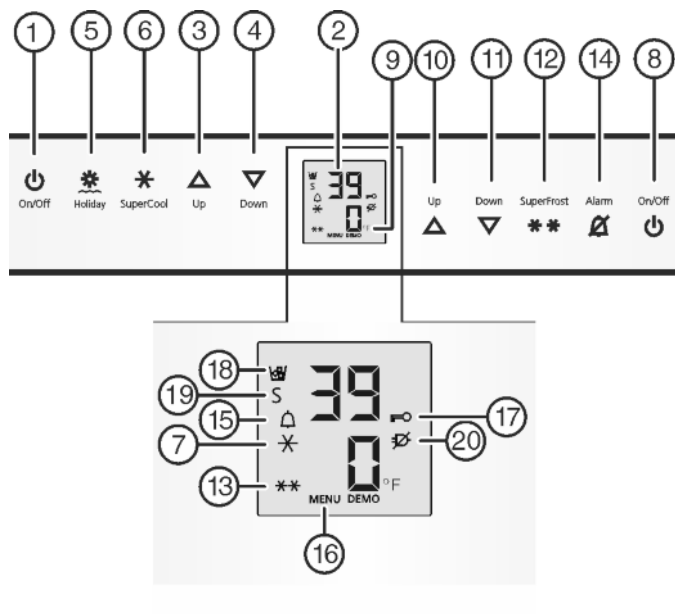

Fig. 3
- Press On/Off button, freezer compartment Fig. 3 (8).
- Press Fridge compartment On/Off button Fig. 3 (1).
- ▷ Fridge and BioFresh compartment are on: Fridge temperature display Fig. 3 (2) is on. When the refrigerator compartment door opens the interior light comes on.
- Activate setting mode: Press SuperFrost button Fig. 3 (12) for about 5 seconds.
- ▷ The Menu symbol *Fig. 3 (16)* lights up.
- ▶ Using Freezer compartment Up button *Fig. 3 (10)*/ Freezer compartment Down button *Fig. 3 (11)* select °.
- ▶ To confirm: Briefly press SuperFrost button *Fig. 3 (12)*.
- ▶ Using Freezer compartment Up button *Fig. 3 (10)*/ Freezer compartment Down button *Fig. 3 (11)* select °F or °C.
- ▶ To exit setting mode: Press Freezer compartment On/Off button *Fig. 3 (8)*.
- ▶ Activate setting mode: press and hold the SuperFrost button *Fig. 3 (12)* for approximately 5 s.
- ▶ Using the Freezer compartment Up button *Fig. 3 (10)* or Freezer compartment Down button *Fig. 3 (11)*, select c.
- ▶ Press the SuperFrost button *Fig. 3 (12)* briefly to confirm.
- ▶ To switch on the child-proof lock, press the SuperFrost button *Fig. 3 (12)* briefly.
- ▷ The Child safety symbol *Fig. 3 (17)* lights up. c flashes on the display.
- ▶ To switch off the child-proof lock, press the SuperFrost button *Fig. 3 (12)* briefly.
- ▷ The Child safety symbol *Fig. 3 (17)* goes out. c flashes on the display.
- ▶ Deactivate setting mode: press the Freezer compartment On/Off button *Fig. 3 (8)*.
- ▶ Press Alarm button *Fig. 3 (14)*.
At the same time, the Alarm symbol *Fig. 3 (15)* will flash.
The audible warning automatically ceases, the Alarm symbol *Fig. 3 (15)* goes out, and the temperature display stops flashing when the temperature is cold enough again.